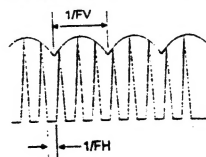

Figure 3-5 Collector of Q303 Output Pulse Correction Wave
2. The sawtooth wave is output from Pin 9 of IC302 and through C350 and R364 and input to Pin 2 of IC601 (DC to DC circuit). It is then output from Pin 6 of IC601 and after being sent to T603's second coil output, is added to horizontal B+ to provide pincushion and trapezoid distortion correction. So, is created to perform amplitude modulation on the horizontal deflection output pulse, as shown in figure 3-5.